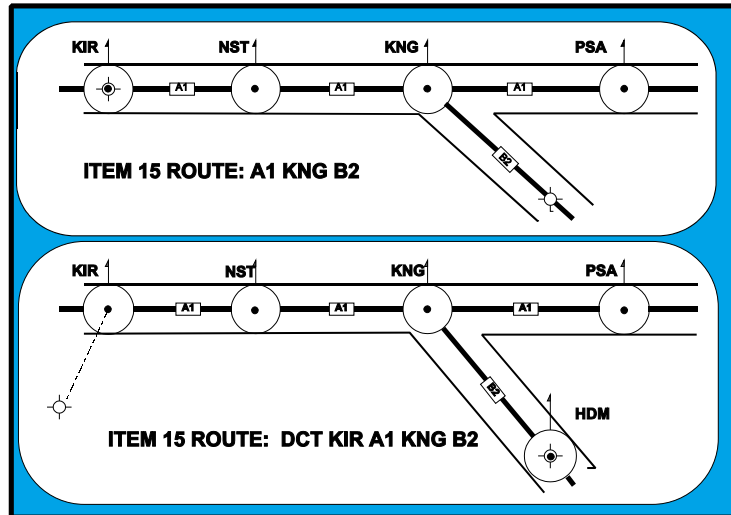

Figure 14.2 Use of DCT
- If a **departure airfield** is **located** or **connected** to the ATS route then the **coded designator** of that route will be the first entry. If it is **not on** or **connected to** the ATS route the first entry will be **DCT** followed by the **joining point**, followed by the **designator** of the ATS route. (Figure 14.2)